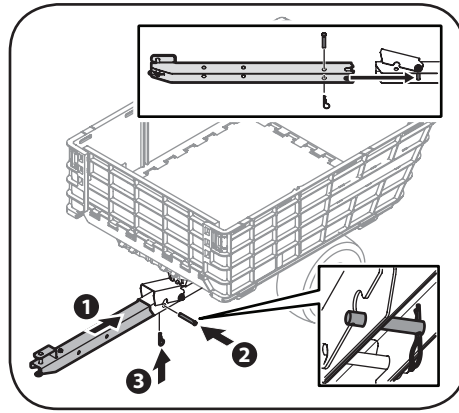

Figure 3-9
- Slide the tongue assembly into the tongue bracket as shown in Figure 3-9. Line up the rear-most hole with the hole in the tongue bracket and insert the clevis pin through the tongue assembly and the tongue bracket. Secure the clevis pin with the cotter pin as shown in Figure 3-9.
- Be sure that the clevis pin is installed on the interior of the tongue assembly and the tongue bracket as shown in the inset in Figure 3-9.